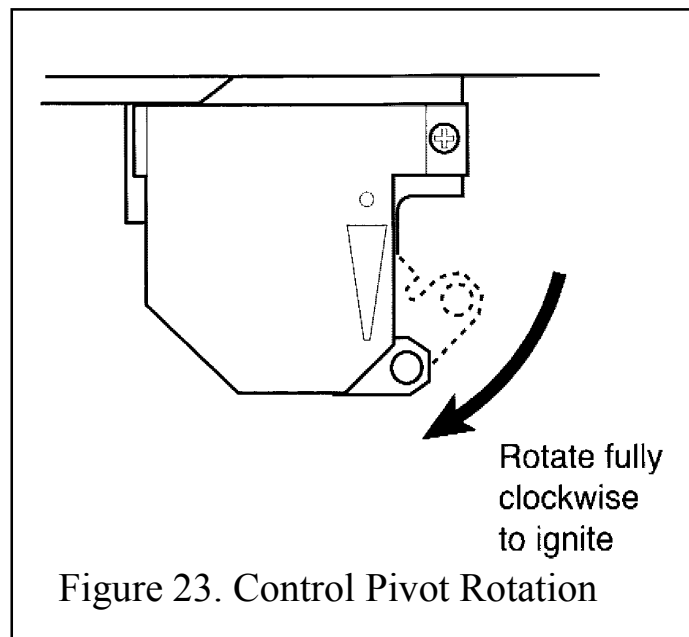

Figure 23. Control Pivot Rotation
2. Rotate the control pivot bracket clockwise as far as it will go and hold in this position (See figure 23). This should close the ignition circuit and simultaneously open the gas tap allowing the gas to flow to the pilot. Wait a few seconds while the air is purged. The electronically generated sparks should light the pilot. The pilot should then light the main burner at its low setting. There may be a delay of up to four seconds between the pilot lighting and ignition of the gas at the main burner. This is normal and is due to the time required to fill the main burner compartment with sufficient gas for ignition.